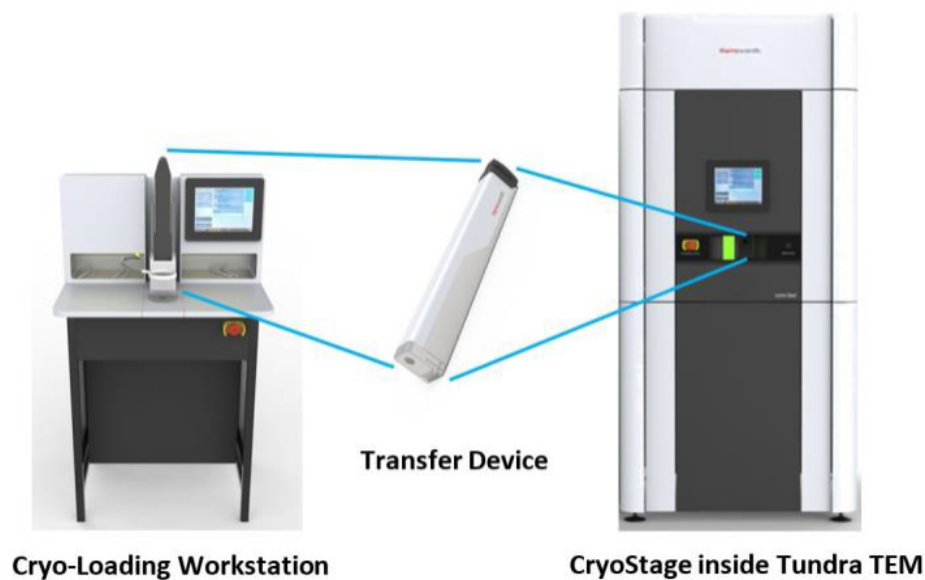

Figure 1. The main components of the Tundra, labeled.
- 2.5. Definition of terms for tools/equipment can be found in Figure 1.